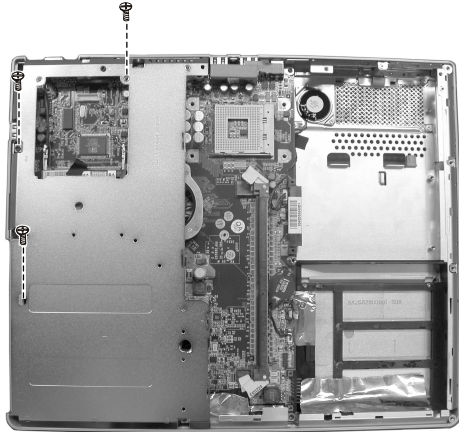

Figure 2-14 Free the bottom shielding
4. Remove three screws and free the bottom shielding. (Figure 2-14)